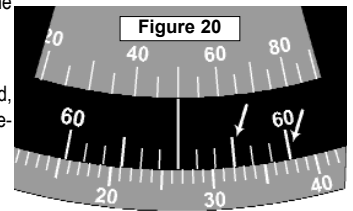

Figure 20
5. Read inclination at vernier's center line from the degree scale -- 26°. (Fig 20)
1. Read nearest percent grade at the vernier's center line -- 50%. (Fig 20)